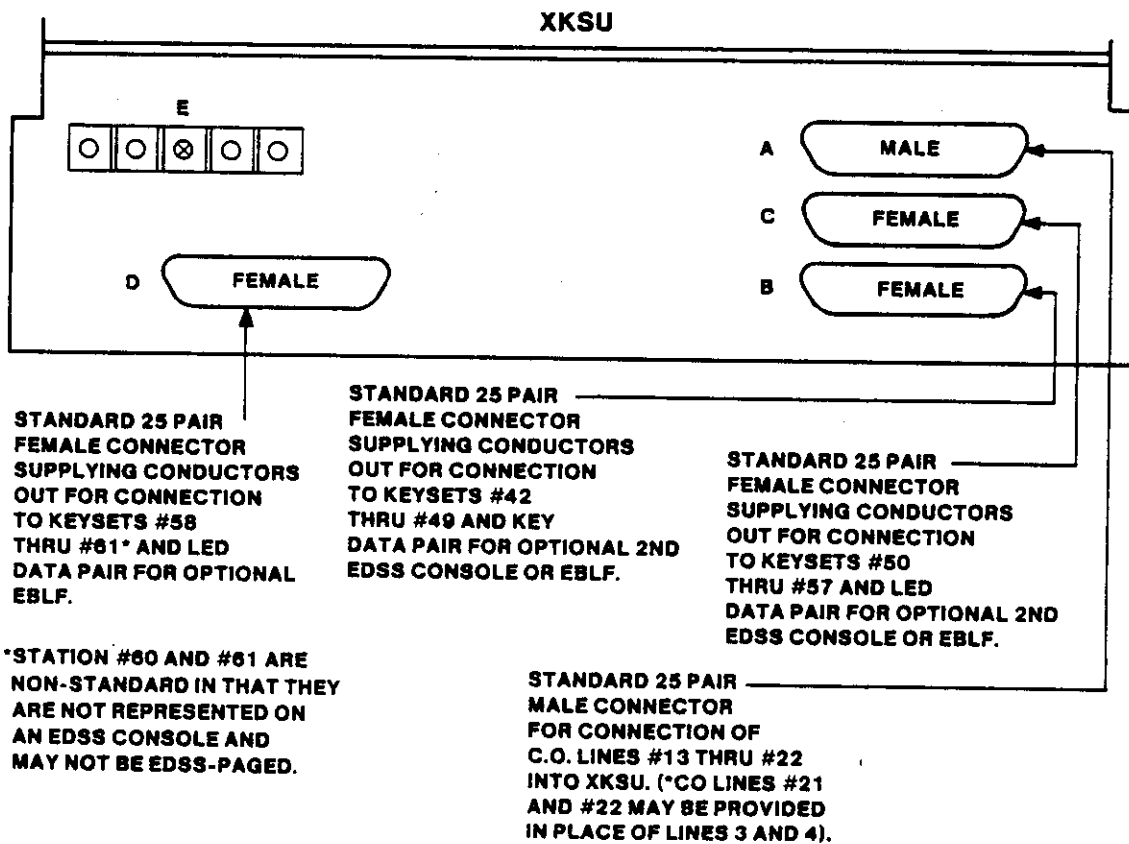

FIGURE 3—REAR XKSU CONNECTION PANEL
2.9.3 Outside lines 13 thru 22 are introduced in a similar manner via connector "A" at the rear of the XKSU (refer to Figure 3).